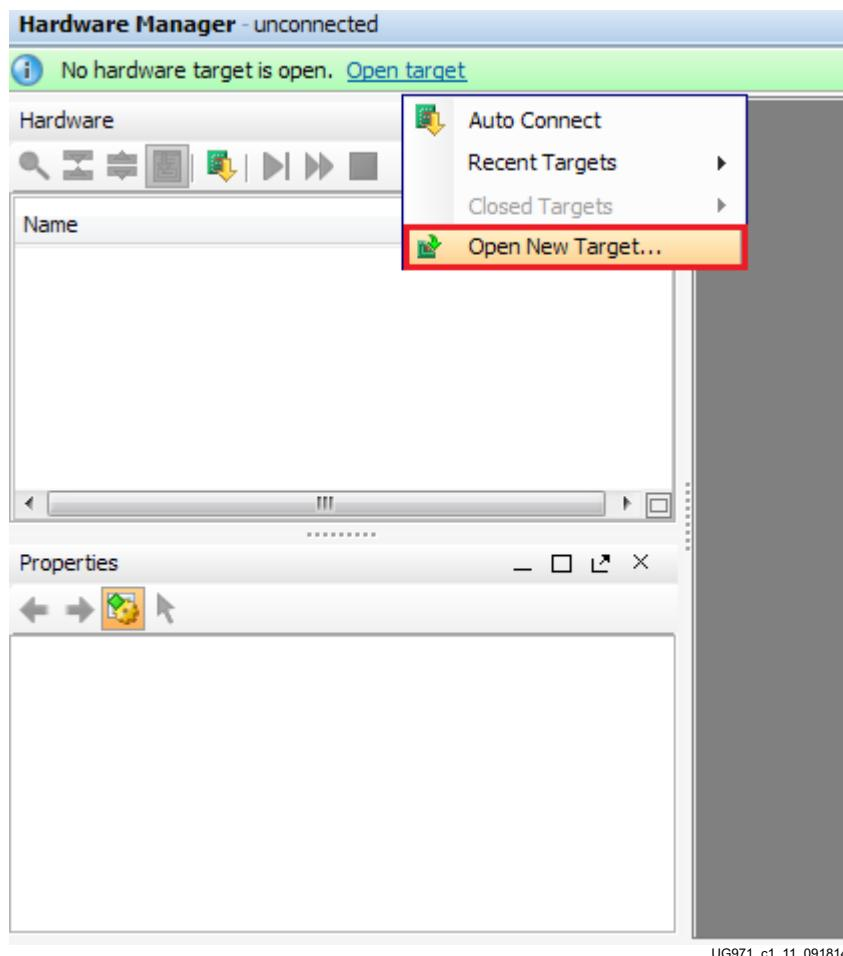

Figure 1-11: Open a New Target
2. In the Hardware Manager window, click **Open New Target** (highlighted in Figure 1-11).